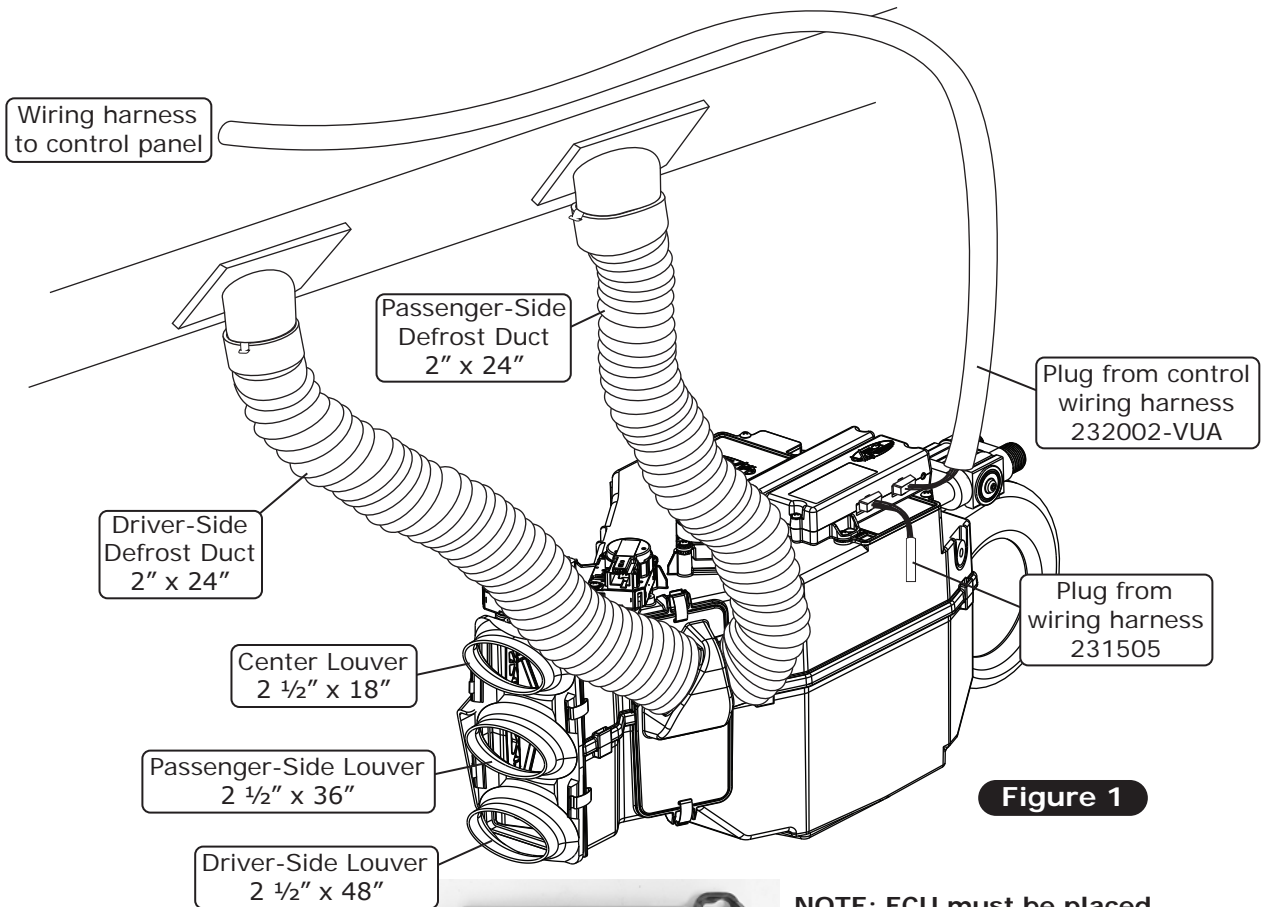

Figure 1
1. Install duct hoses as shown in Figure 1, Page 22.